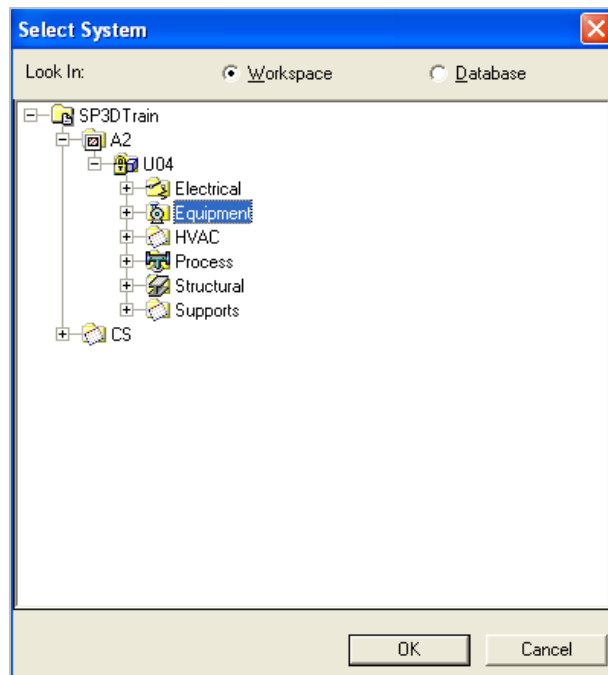

Figure 8: A2 > U04 > Equipment System Highlighted
9. To place the equipment, select **A2 > U04 > Equipment** system, as shown in Figure 8.